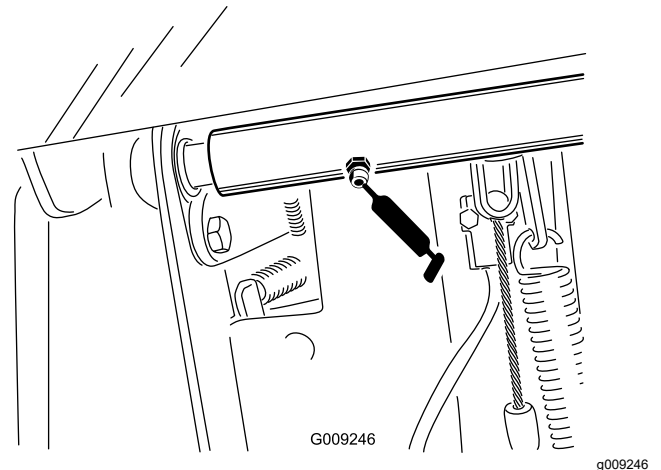

Figure 45
- 2 brake pedal pivot-shaft bearings (Figure 45)